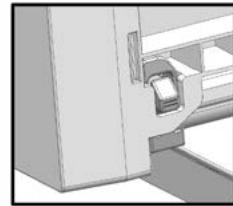

Figure 3
- Push the crisper down until you feel the front section clip onto the rails (see *Figure 3*).